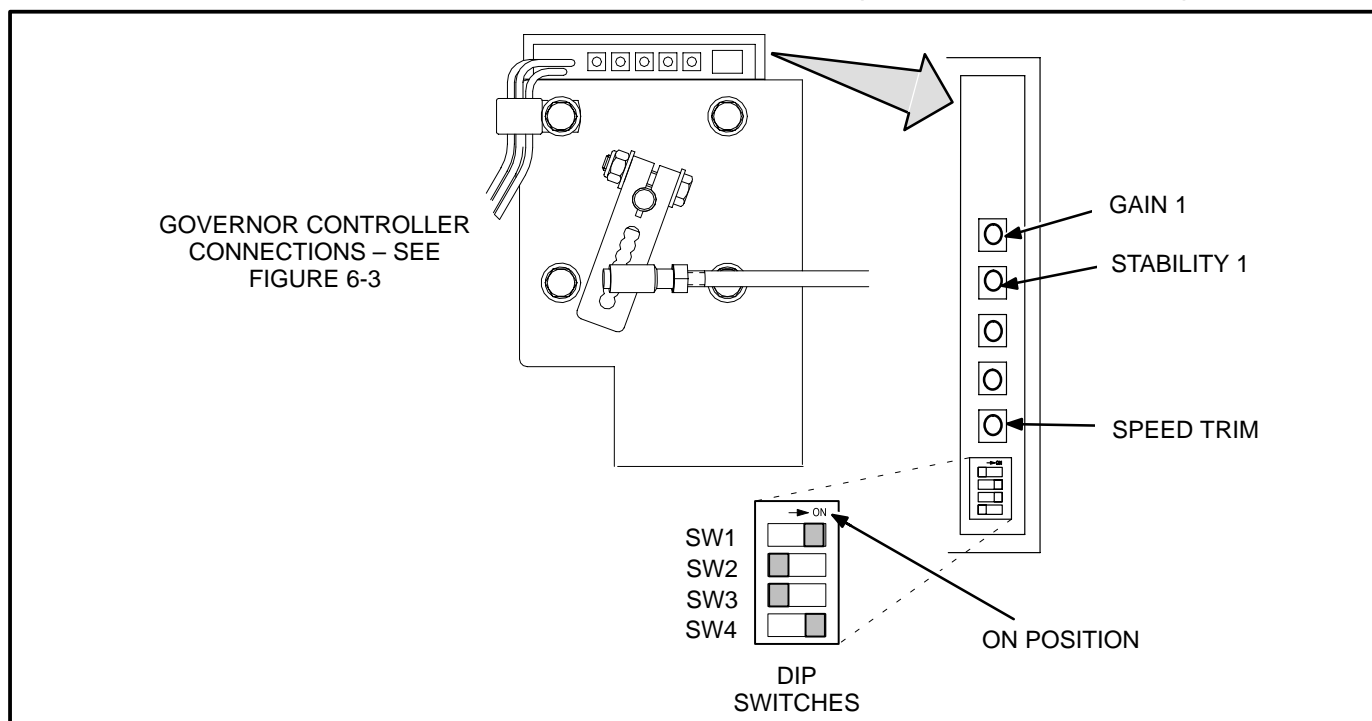

FIGURE 6-1. GOVERNOR CONTROLLER
1. Check the dip switch settings (Figure 6-1) to make sure they are set properly, as follows: